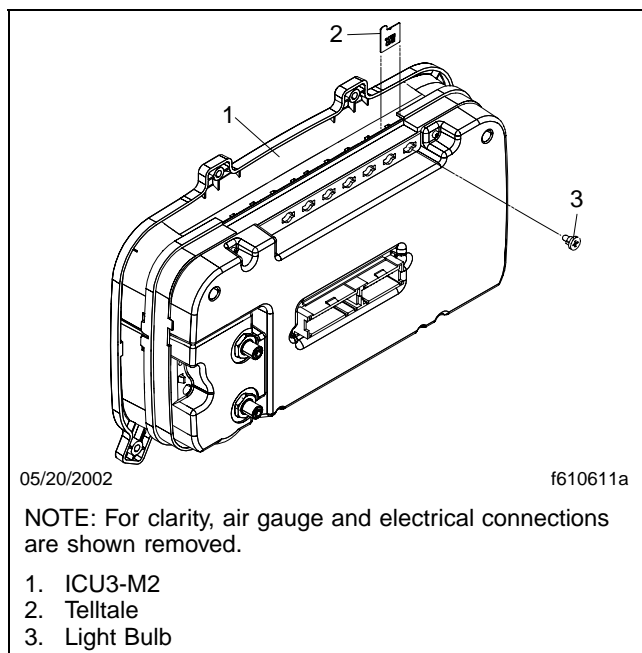

Fig. 4, ICU3-M2, Rear View (exploded)
1. Use a small screwdriver or flat blade to twist out the bulb by its base behind the affected telltale. Turn the bulb 1/4 turn and remove. See Fig. 4.
1. Using a pair of needlenose pliers or a similar tool, grab the exposed tab at the top of the telltale slot and carefully pull the telltale out from the top of the ICU. See Fig. 4.